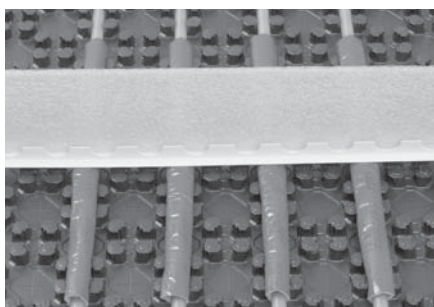

Fig. 2: Heating pipe fitted with joint protection sheath
- The flow and return pipes in the vicinity of the settlement joint, fitted with the joint protection sheath (Fig. 2).